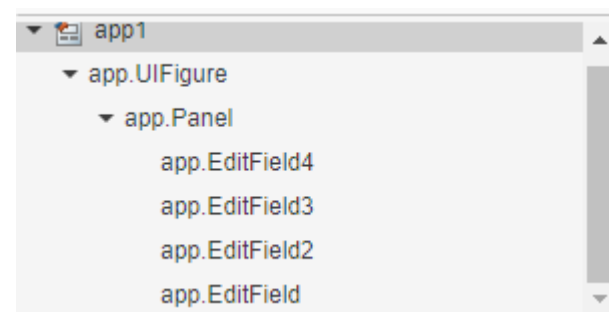

Figure 11: Object Created from the Edit Field
5. The name of the variable associated will be displayed on the top of component browser window as shown in Figure 11. We made the following window and its respective objects are as follows.